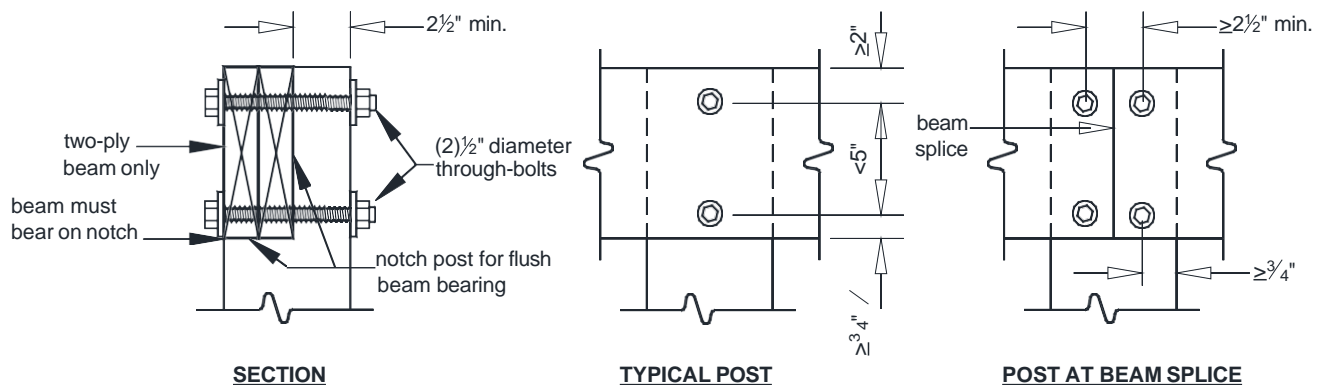
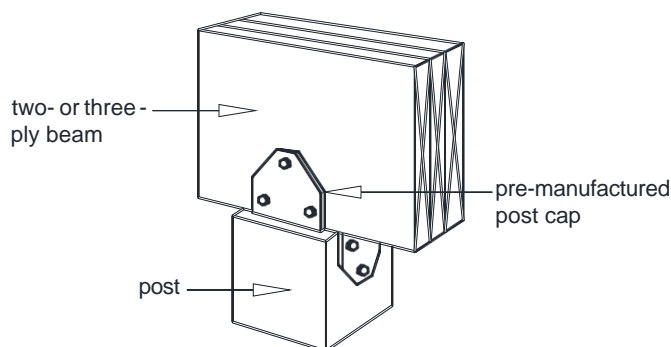

FIGURE 16: NOTCHED 6x6 POST-TO-BEAM CONNECTION
FIGURE 17: POST CAP CONNECTION
- Beams shall be attached to 6x6 posts using one of the methods shown in **FIGURE 16** or **17**. Beams shall be attached to 4x4 posts using the method shown in **FIGURE 17**.